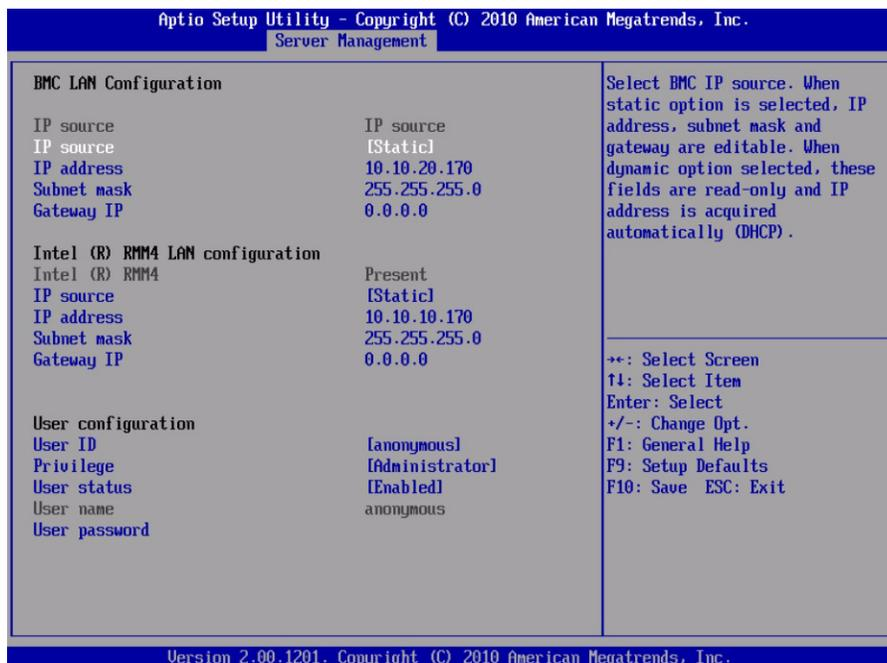

Figure 1-61 BIOS Server Management Tab
2. Next, navigate to the **Server Management** tab (Figure 1-61), scroll down to **BMC LAN Configuration** and press **Enter**.